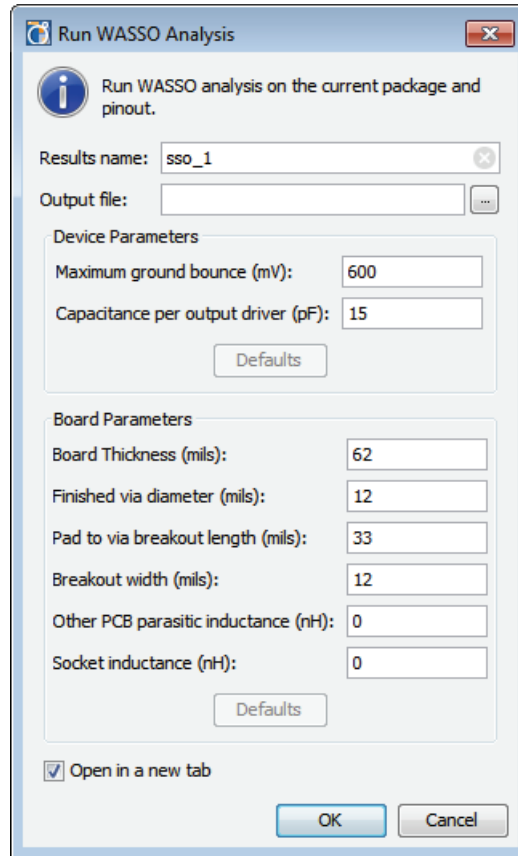

Figure 8-37: Run WASSO Analysis Dialog Box
1. To run a WASSO analysis, select **Run Noise Analysis** from either the Flow Navigator or from the Tools menu. The **Run WASSO Analysis** dialog box opens, as shown in Figure 8-37, page 284.